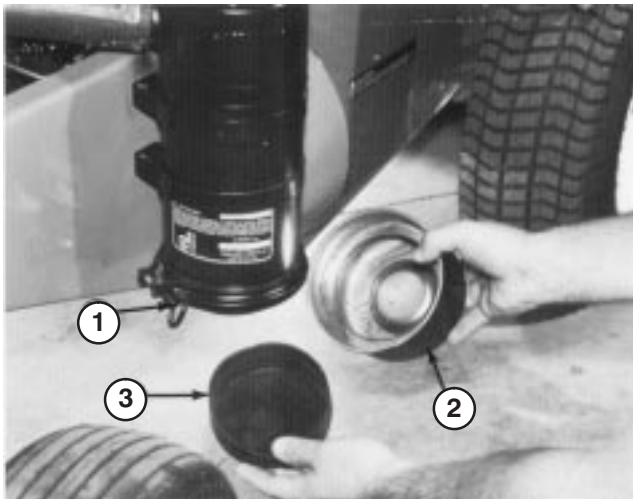

Figure 39
1. Loosen thumb screw until dust cup and baffle can be removed (Fig. 39). Separate dust cup and baffle.